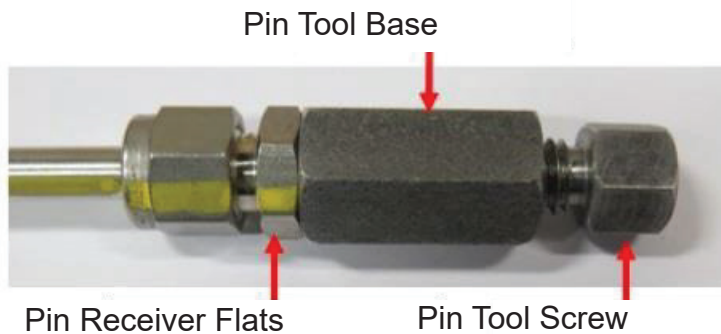

Figure 40: Make sure the pin tool base contacts the pin receiver body.
3. Hand tighten the pin cap tool base onto the pin receiver (Figure 40).